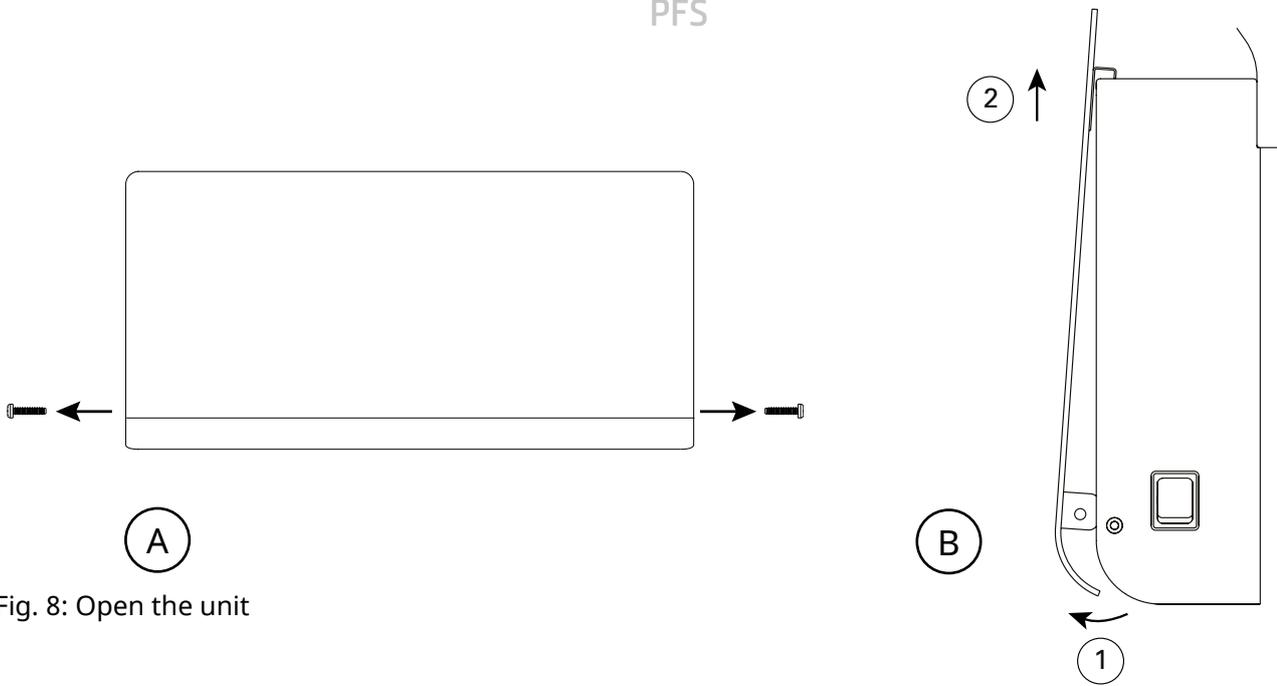

Fig. 8: Open the unit
on the plastic ends (2x), pull the front at the bottom and then lift it up. (Fig. 8)
2. The front is opened by removing the screws on the plastic ends (2x), pull the front at the bottom and then lift it up. (Fig. 8)